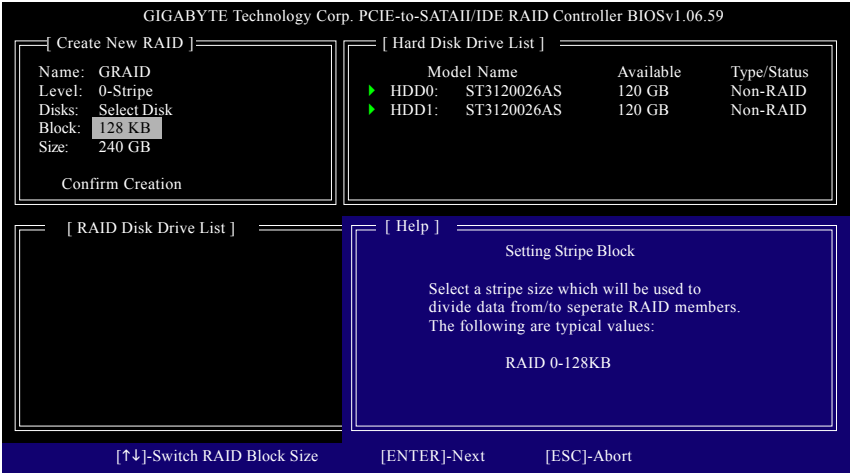

Figure 7
- 4. **Set Block Size (RAID 0 only):** Under the **Block** item, use the up or down arrow key to select the stripe block size (Figure 7), ranging from 4 KB to 128 KB. Press <Enter>.